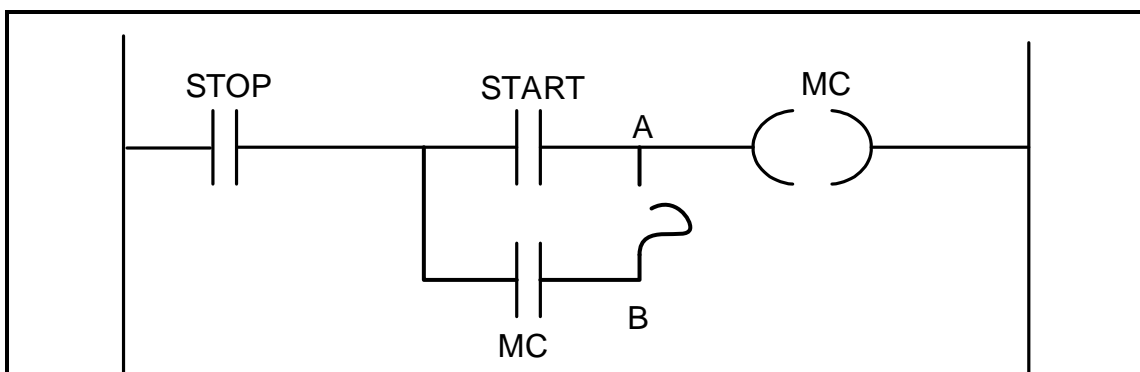

FIGURE 6.7: LADDER LOGIC CIRCUIT
6.7 The circuit in FIGURE 6.7 below is programmed with a fault, as shown between points **A** and **B**. Explain the effect that the fault will have on the operation of the circuit.